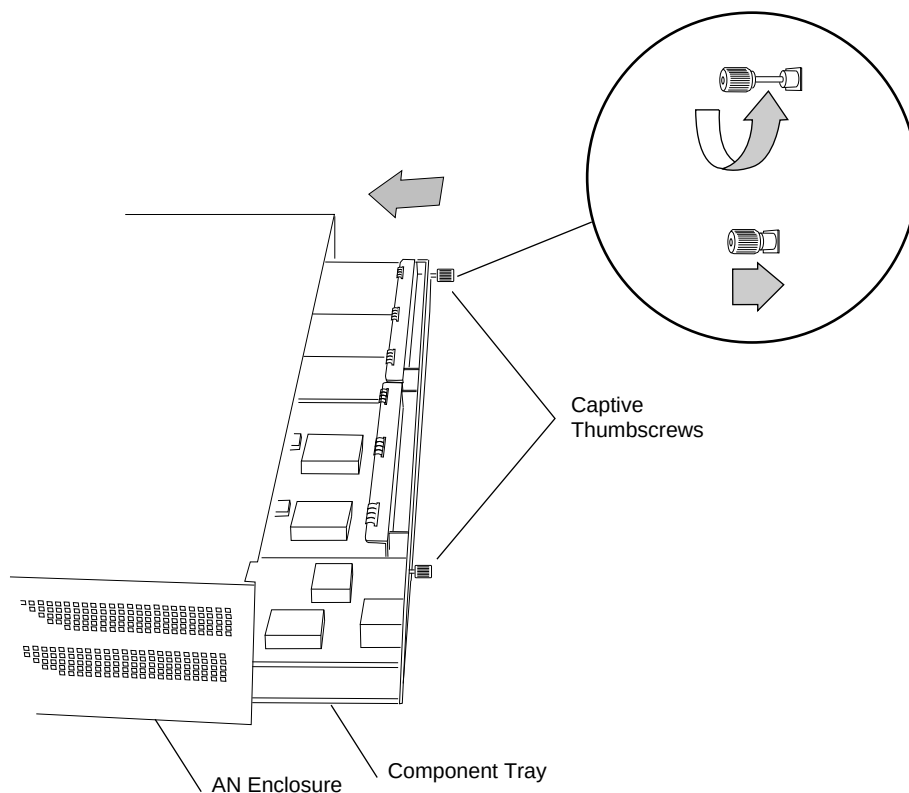

Figure 1-6. Closing the AN
1. Slide the base board assembly back into the enclosure (Figure 1-6) until the back panel sets flush against the enclosure end.